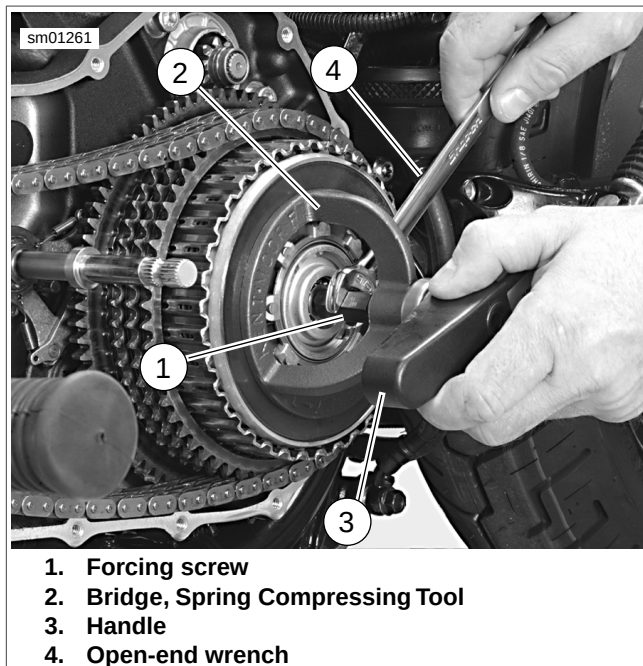

Figure 5-13. Compressing Clutch Diaphragm Spring
2. Thread the CLUTCH SPRING FORCING SCREW (Part No. HD-38515-91) (1, Figure 5-13) onto the clutch adjusting screw (12, Figure 5-11). Place the bridge (2, Figure 5-13) of SPRING COMPRESSING TOOL (Part No. HD-38515-A) against diaphragm spring (17, Figure 5-11). Thread the tool handle (3, Figure 5-13) onto end of forcing screw.
5. If disassembled, assemble bearing (13) and adjusting screw (12) in release plate (15); secure with **new** retaining ring (14).
6. Install adjusting screw assembly (12, 13, 14, 15) into pressure plate (11), noting that two tabs on perimeter of release plate (15) must be inserted into corresponding recesses in pressure plate. Secure adjusting screw assembly with **new** retaining ring (16).
7. Position diaphragm spring (17) with its concave side facing inboard (toward pressure plate), onto pressure plate assembly.
8. Position spring seat (18) with its flat, larger outer diameter side facing inboard (toward diaphragm spring).
9. Install a **new** retaining ring (19) onto convex (outboard) side of diaphragm spring.
10. See Figure 5-11 and Figure 5-13. Thread the CLUTCH SPRING FORCING SCREW (Part No. HD-38515-91) (1, Figure 5-13) onto the clutch adjusting screw (12, Figure 5-11). Place the bridge (2, Figure 5-13) of SPRING COMPRESSING TOOL (Part No. HD-38515-A) against diaphragm spring (17, Figure 5-11). Thread the tool handle (3, Figure 5-13) onto end of forcing screw. Do not tighten compressing tool against diaphragm spring at this time.
12. See Figure 5-13. Place an open-end wrench (4) on the clutch spring forcing screw (1) flats to prevent the forcing screw from turning.